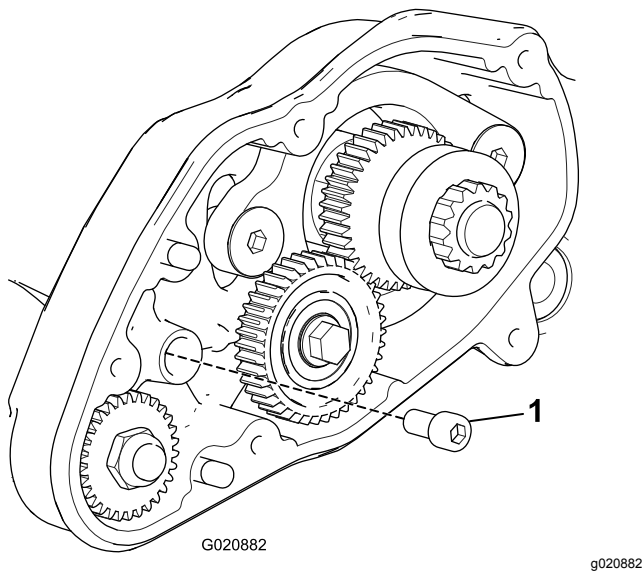

Figure 14
4. Install the socket-head bolt you removed from the cover into the hole where the center gear was installed (Figure 14).